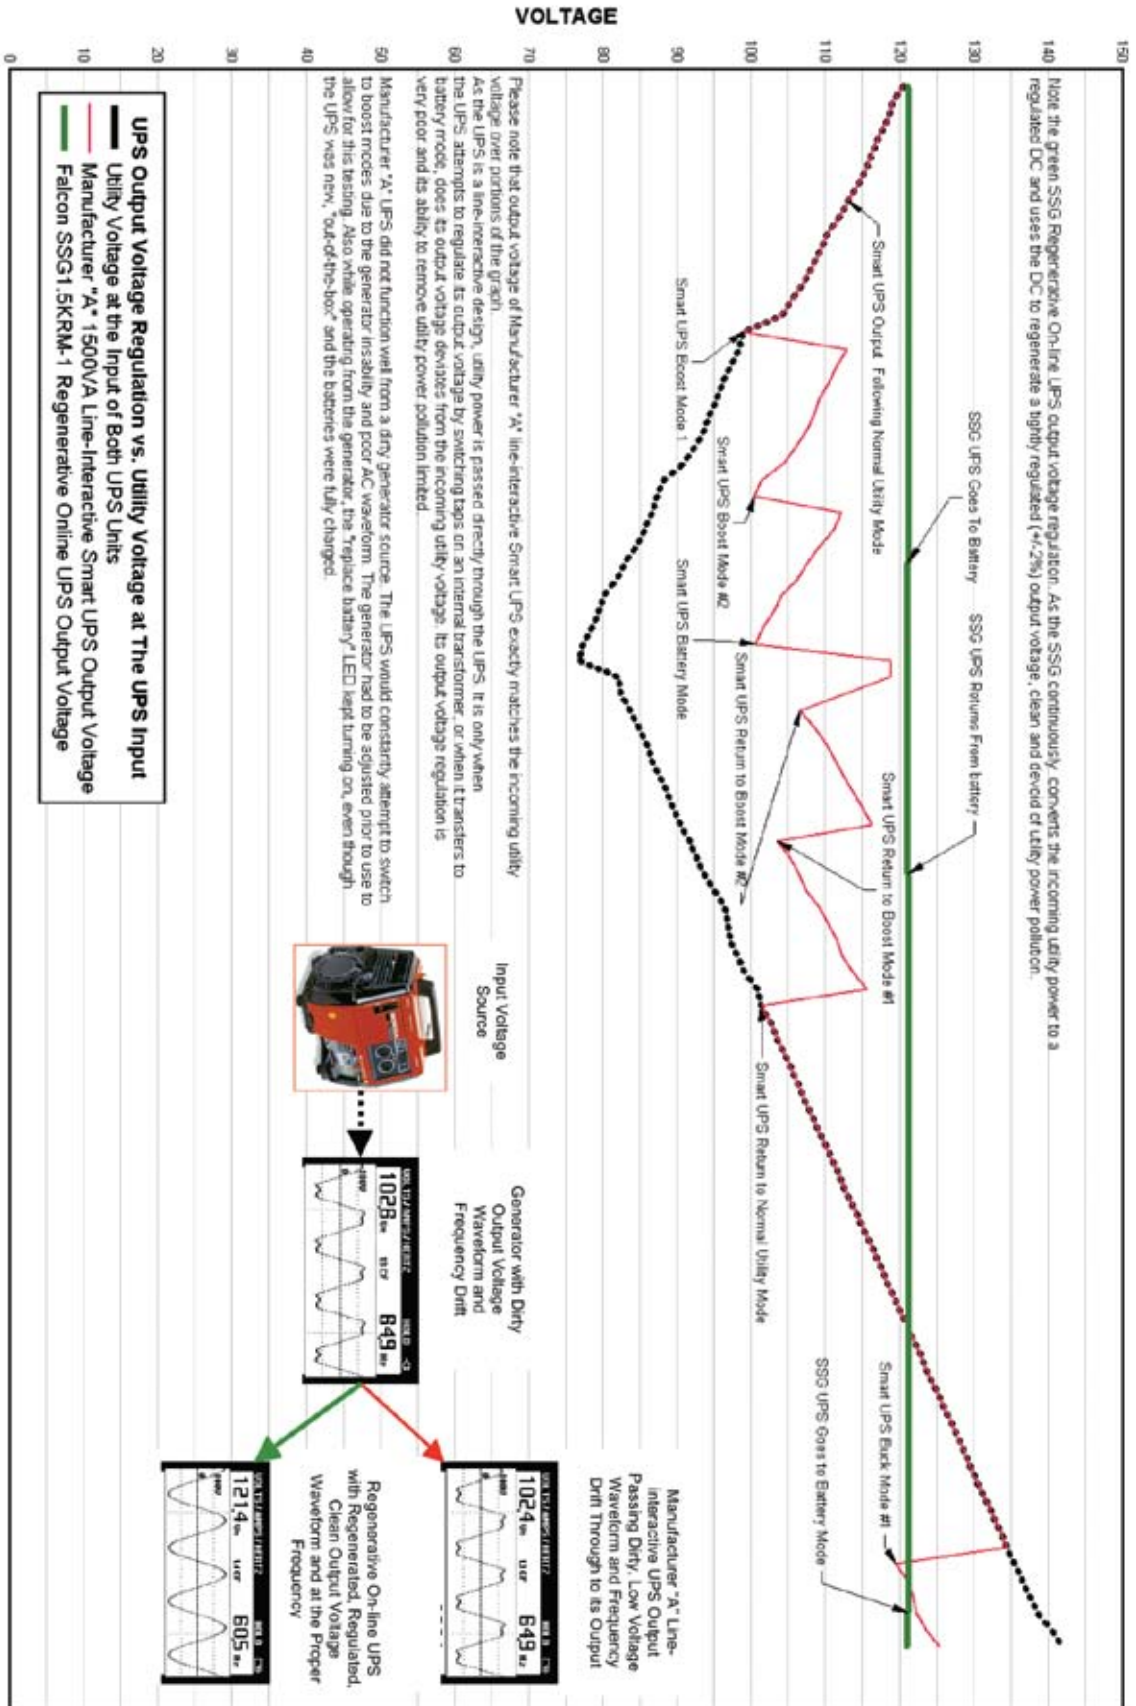

Figure 1
2. *The line-interactive UPS is similar to the off-line design, except it provides grossly regulated AC power. Voltage regulation is accomplished by electronically changing transformer taps whenever the utility power changes drastically. Paradoxically, this UPS can actually make a greater change in output voltage than the power provided by the utility company (Figure 1). In addition, the attempt to regulate the output voltage in this manner takes a toll on the batteries, which are used frequently as part of the boost-buck automatic voltage regulation (AVR) feature. Typically, this AVR feature is used several times a day to mitigate sag and brownout conditions. The line-interactive UPS design usually provides a sine-wave or semi-sine-wave output when operating on battery.*